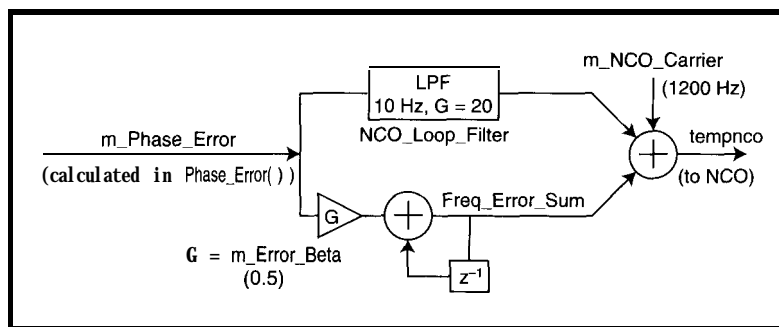

Figure 2-A standard proportional-integral (PI) feedback system tracks the transmitted carrier.
Figure 2 and Listing 4 show the carrier-tracking loop filter and the code. The loop filter is a standard proportional-integral (PI) design.